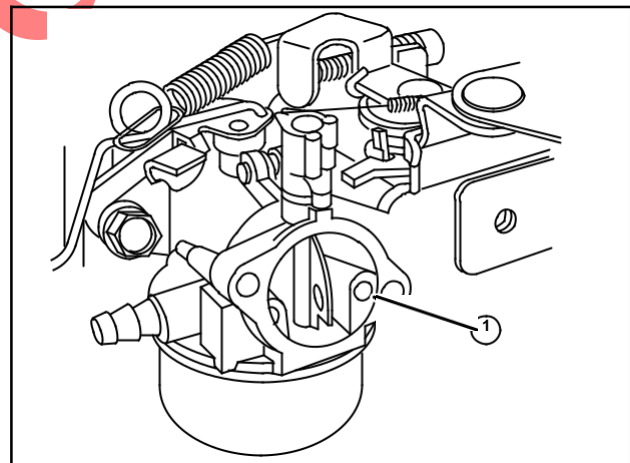
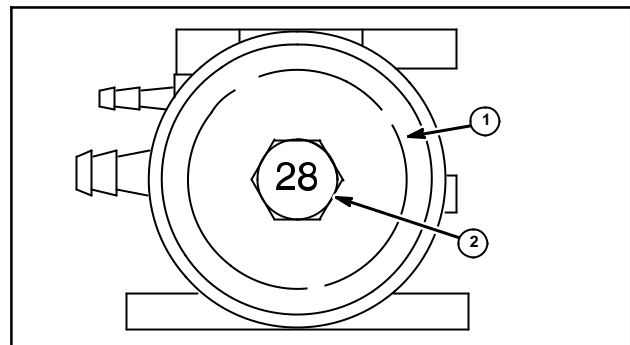

Fig. 105
Fig. 106
If poor performance is experienced refer to Table No. 5, Page 64 or Table No. 6, Page 65, Specifications, by basic Model Number and carburetor I.D. number, and remove main air bleed jet (1), Fig. 105, or fixed main jet (2), Fig. 106. If carburetor I.D. number is not found, go to "Illustrated Parts List" by Model and Type number.